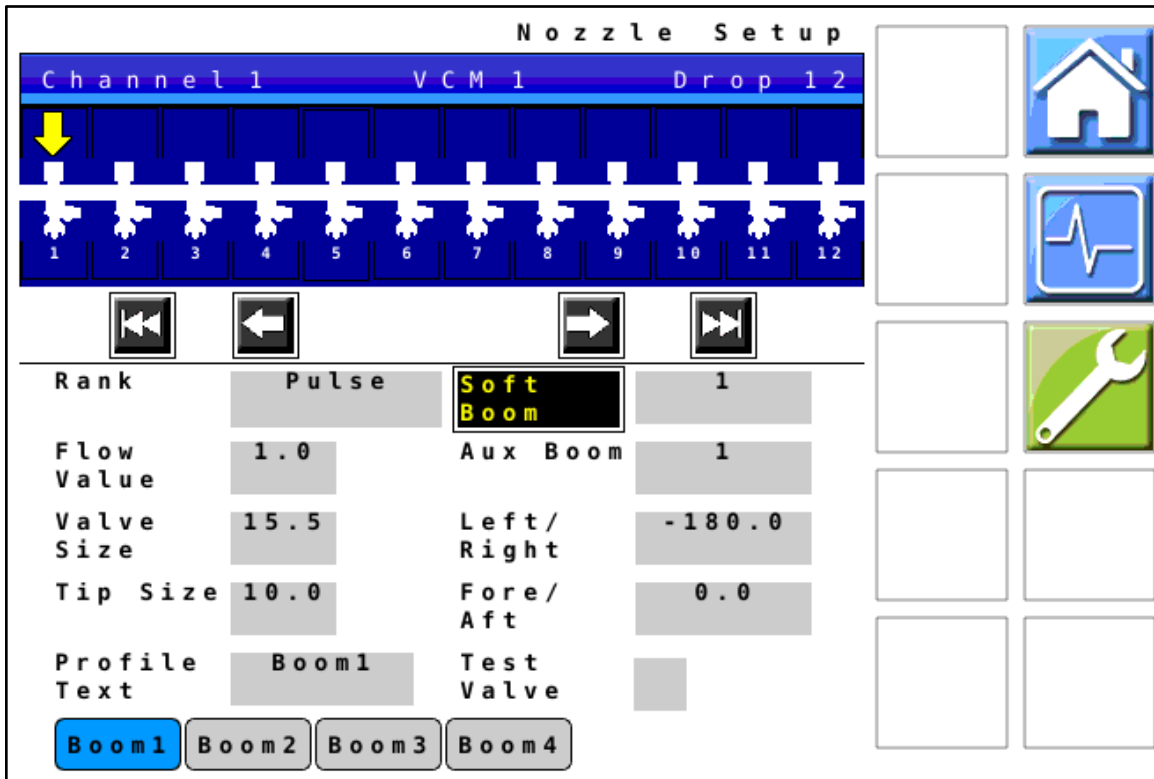

Figure 10 — Nozzle Setup
17. *Figure 10:* Use the Nozzle Setup screen to set up and name custom boom profiles.